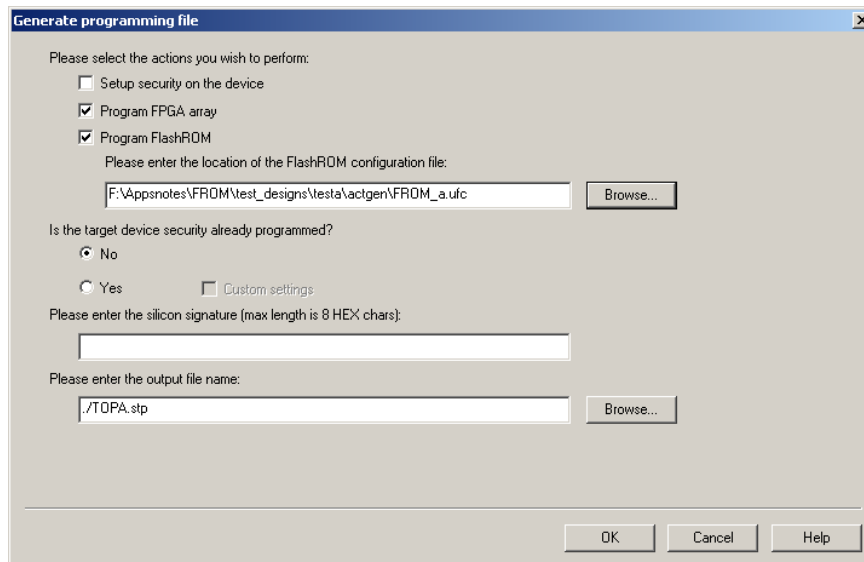
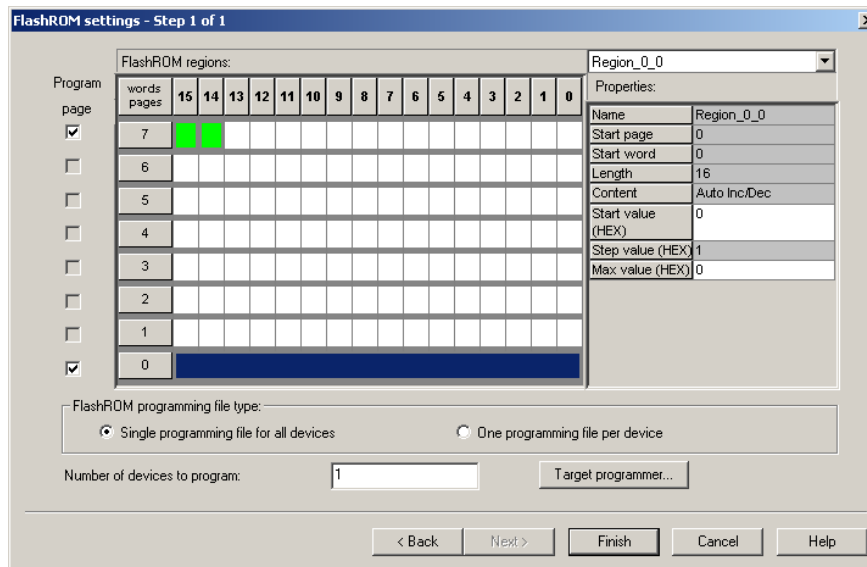

Figure 8-12 • Programming File Generator
Figure 8-13 • Setting FlashROM during Programming File Generation
Figure 8-12 shows the programming file generator, which enables different STAPL file generation methods. When you select **Program FlashROM** and choose the UFC file, the FlashROM Settings window appears, as shown in Figure 8-13. In this window, you can select the FlashROM page you want to program and the data value for the configured regions. This enables you to use a different page for different programming files.
3. Select **Programming File in Designer** and open **Generate Programming File** (Figure 8-12 on page 230).
4. Click **Program FlashROM**, browse to the UFC file, and click **Next**. The FlashROM Settings window appears, as shown in Figure 8-13 on page 230.